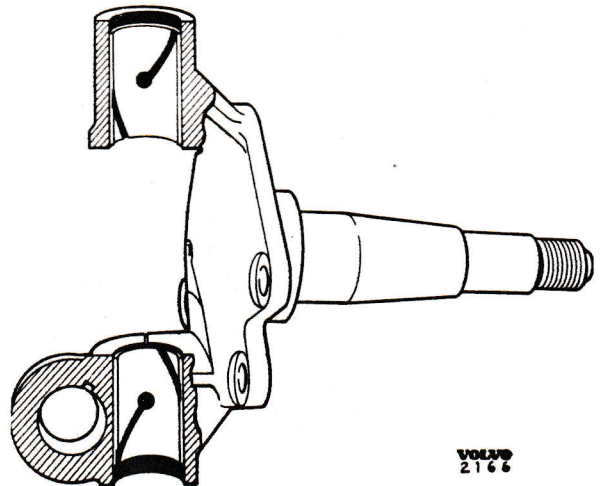

Fig. 18. King pin bushes
1. Clean the steering knuckle. Clean off any burr at the bush positions. Press in the new bushes with drift SVO 1442. Make sure that the lubricating hole comes opposite the grease nipple and that the short lubricating groove faces the sealing washer, see Fig. 18.